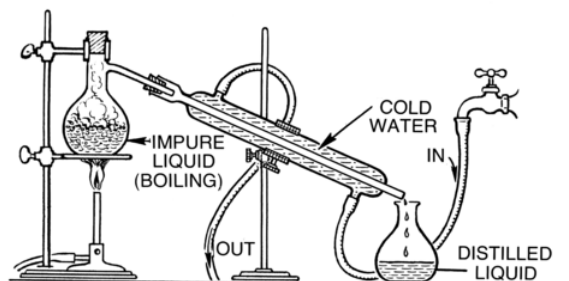

Figure 17.4.1 Distillation apparatus.
**Distillation** is an effective method to separate mixtures comprised of two or more pure liquids. Distillation is a purification process where one component of a liquid mixture is vaporized and then condensed and isolated. In simple distillation Figure 17.4.1, a mixture is heated and the most volatile component vaporizes at the lowest temperature. The vapor passes through a cooled tube (a condenser), where it condenses back into its liquid state. The condensate that is collected is called distillate.